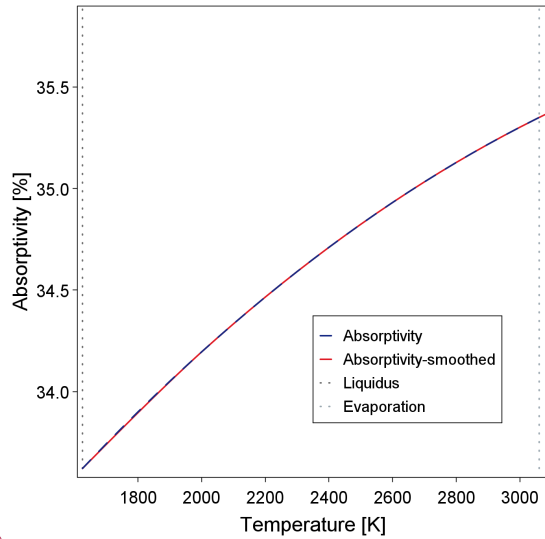

Figure 17: The calculated absorptivity as a function of temperature for the alloy IN738LC.
- **Absorptivity** to visualize the temperature dependent absorptivity for the liquid phase of the selected material (Figure 17).